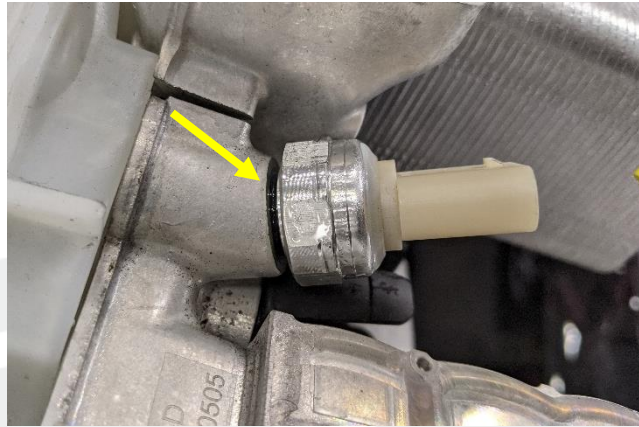

Figure 9 – O-ring just makes contact
- a. Install and hand-tighten the subcool high pressure P/T sensor until the sensor O-ring just makes contact with the Supermanifold (Figure 9).
- a. Install and hand-tighten the high pressure P/T sensor until the sensor O-ring just makes contact with the Supermanifold (Figure 9).
- a. Install and hand-tighten the low pressure P/T sensor until the sensor O-ring just makes contact with the Supermanifold (Figure 9).